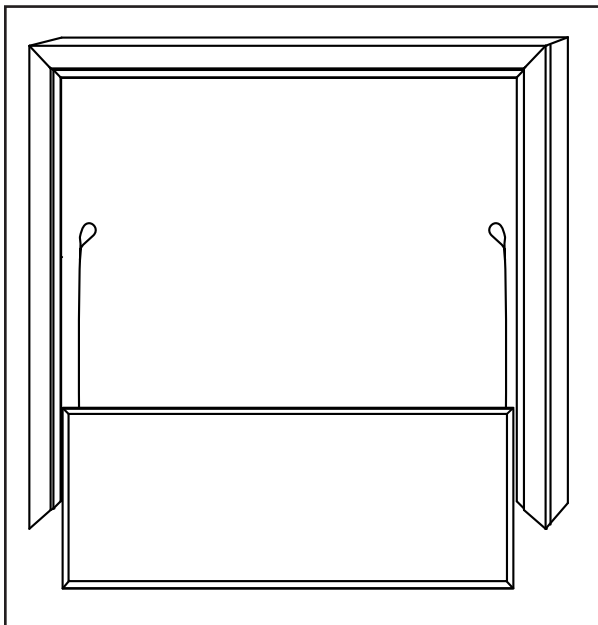

Figure 2
2) Insert the moving panel, with the cables at the top, into the frame channel and then assemble the bottom to complete the frame (See Figure 2).